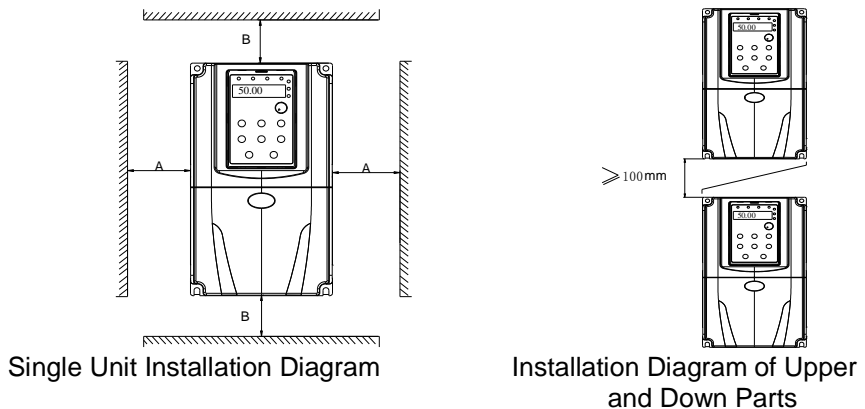

Figure 3-1 Installation Diagram
- 1) Install the inverter vertically so that the heat may be expelled from the top. However, the equipment cannot be installed upside down. If there are multiple inverters, parallel installation is a better choice. In applications where the upper and lower inverters need to be installed, please refer to Figure 3-1 "Installation Diagram" and install an insulating splitter.
- 2) The mounting space should be as indicated as Figure 3-1, so as to ensure the heat dissipation space of the inverter. However, the heat dissipation of other devices in the cabinet should also be taken into account.